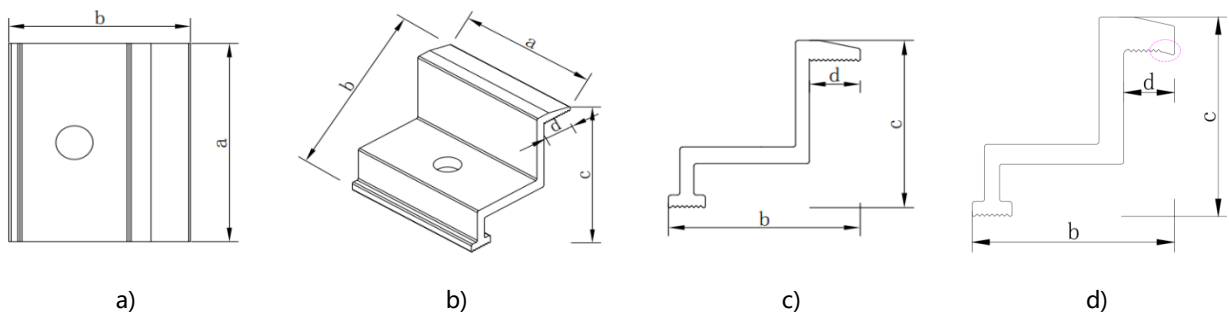

Figure 7 Recommended clamp schematic
- c) Modules with a length greater than 2.2 m and a width greater than 1.3 m are required to be mounted with the camber clamps shown in Fig. 7 d), which enables the clamps to fit better with the frame and provide more stable performance under extreme environmental conditions.